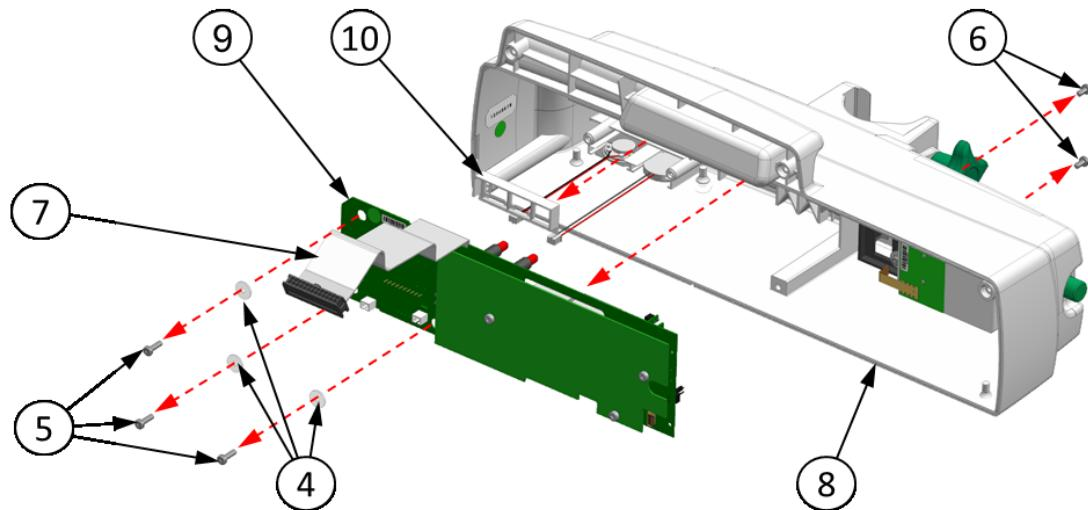

Fig. 58 Power supply board set removal/installation
3. By using the **TB-1** torx screwdriver unscrew three **3x10 screws for plastic (4)** with **2,7x10x1 polyamide washers (5)** and two **3x6 screws for plastic (6)** located in the battery chamber (Fig. 58).
4. Tear the **IDE tape (7)** off being fixed to the **Back case (8)** by the **Two-sided foam tape (11)**.